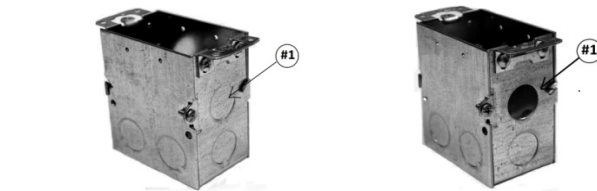

Figure 4 – Junction Box Knockout
Step 3 — Remove knockout "1" from one side of the "Receptacle" junction box as shown in Figure 4.